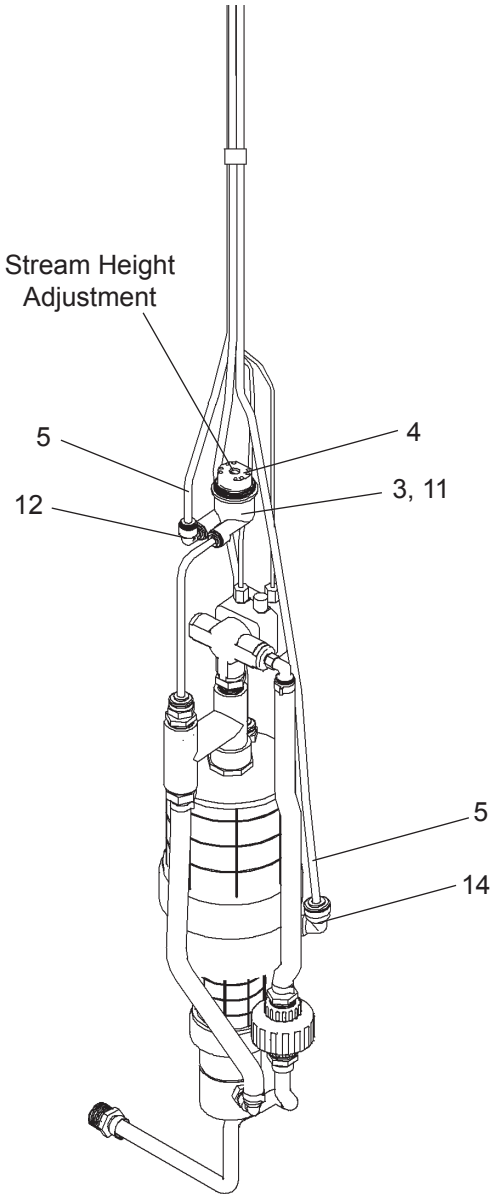

FIG. 4
- Remove the cleanout plug from the PVC column. Remove the valve assembly from the PVC column by carefully pulling up on the strap and connecting tubing at the same time. Pressure test the valve assembly for leaks. Check stream height from the bubbler. Stream height is factory set at 35 PSI. If supply pressure varies greatly from this, adjust the screw on the regulator (Item 12, Fig. 4, Page 10). Clockwise adjustment will raise stream and counter-clockwise adjustment will lower stream. For best adjustment stream height should be approx. 1-1/2" (38mm) above the bubbler guard. Replace the valve into the PVC column. Make sure the supply hose coils into the bottom of the PVC column without any kinks and double check that the valve is positioned fully at the bottom of the PVC column. Cap the PVC column.